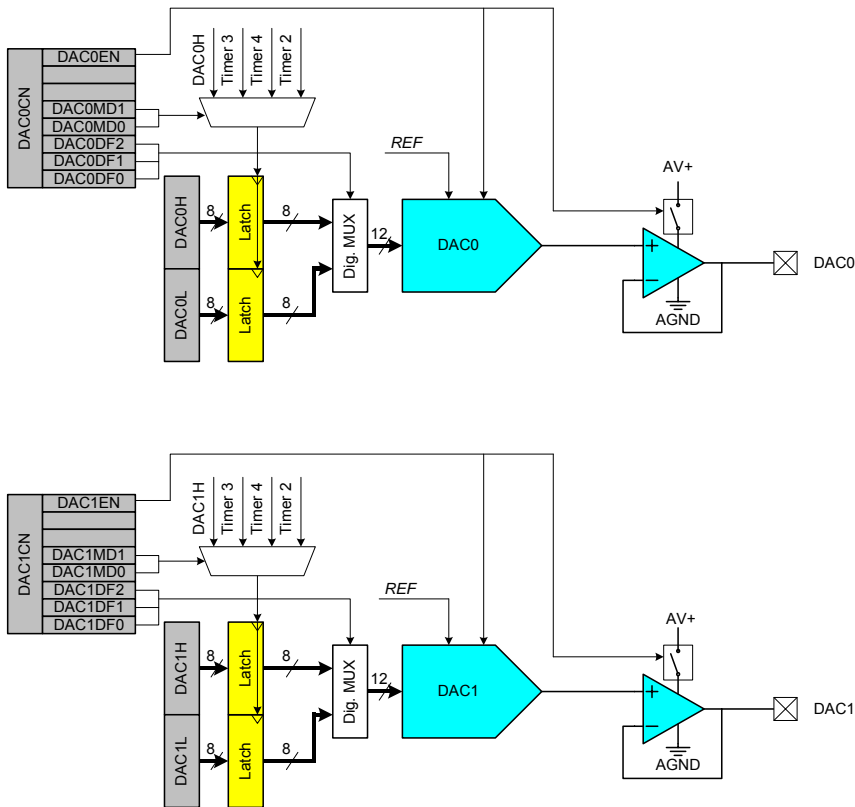

Figure 9.4 Functional Block Diagram of DAC0 and DAC1
The DAC subsystem consists of two 12-bit DACs: DAC0 and DAC1. The two DACs are functionally identical and each is configured via the respective control registers, DAC0CN and DAC1CN. Figure 9.4 shows the functional block diagram of the two DACs..
10. Which are the four SFRs that should be configured when programming DAC1? (Hint: refer to Figure 9.4 and Section 9.12)